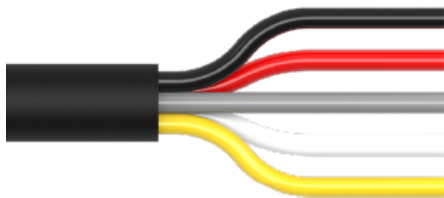

FIG. 3
- See Fig. 3 for individual wire functions. Refer to the perimeter strobe light instructions to program the **RED**, **GREY** and WHITE wires to desired strobe patterns.